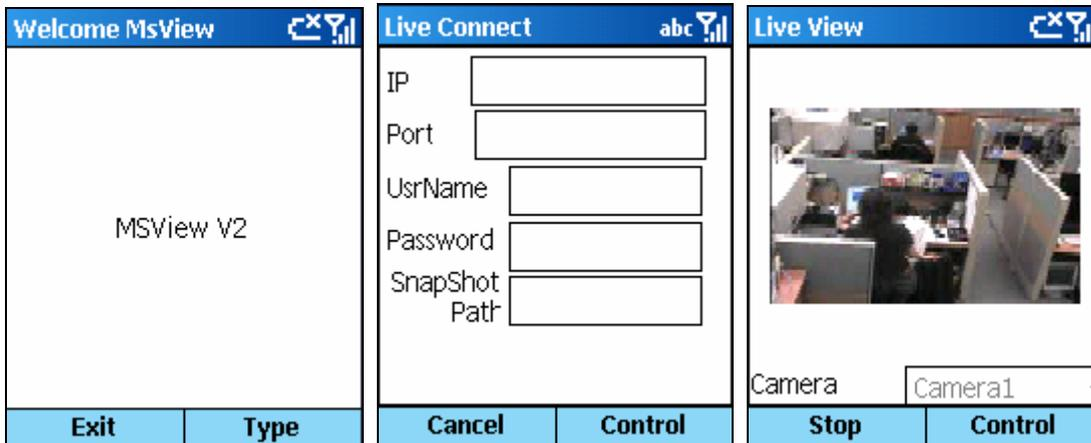

Figure 6-69 MSView Main Screen **Figure 6-70** Entering GV-System Info **Figure 6-71** Viewing live camera
1. Execute **MSViewV2.exe** or **MSViewV3.exe** in your smartphone. Figure 6-69 appears.